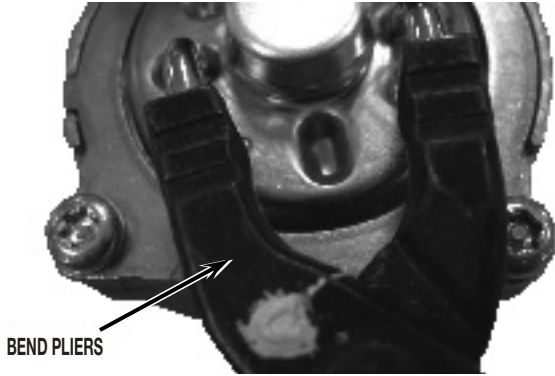

FIGURE 7
- Position a pair of bend pliers into the slots of the cover dial. See *Figure 7*.